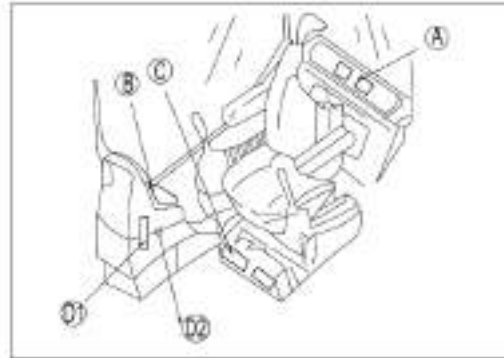

Figure 3-89 Vent of the air conditioner
Switch (1) is a group of air regulator or ventilation selection switch as shown in Figure 3-89. There are four modes: